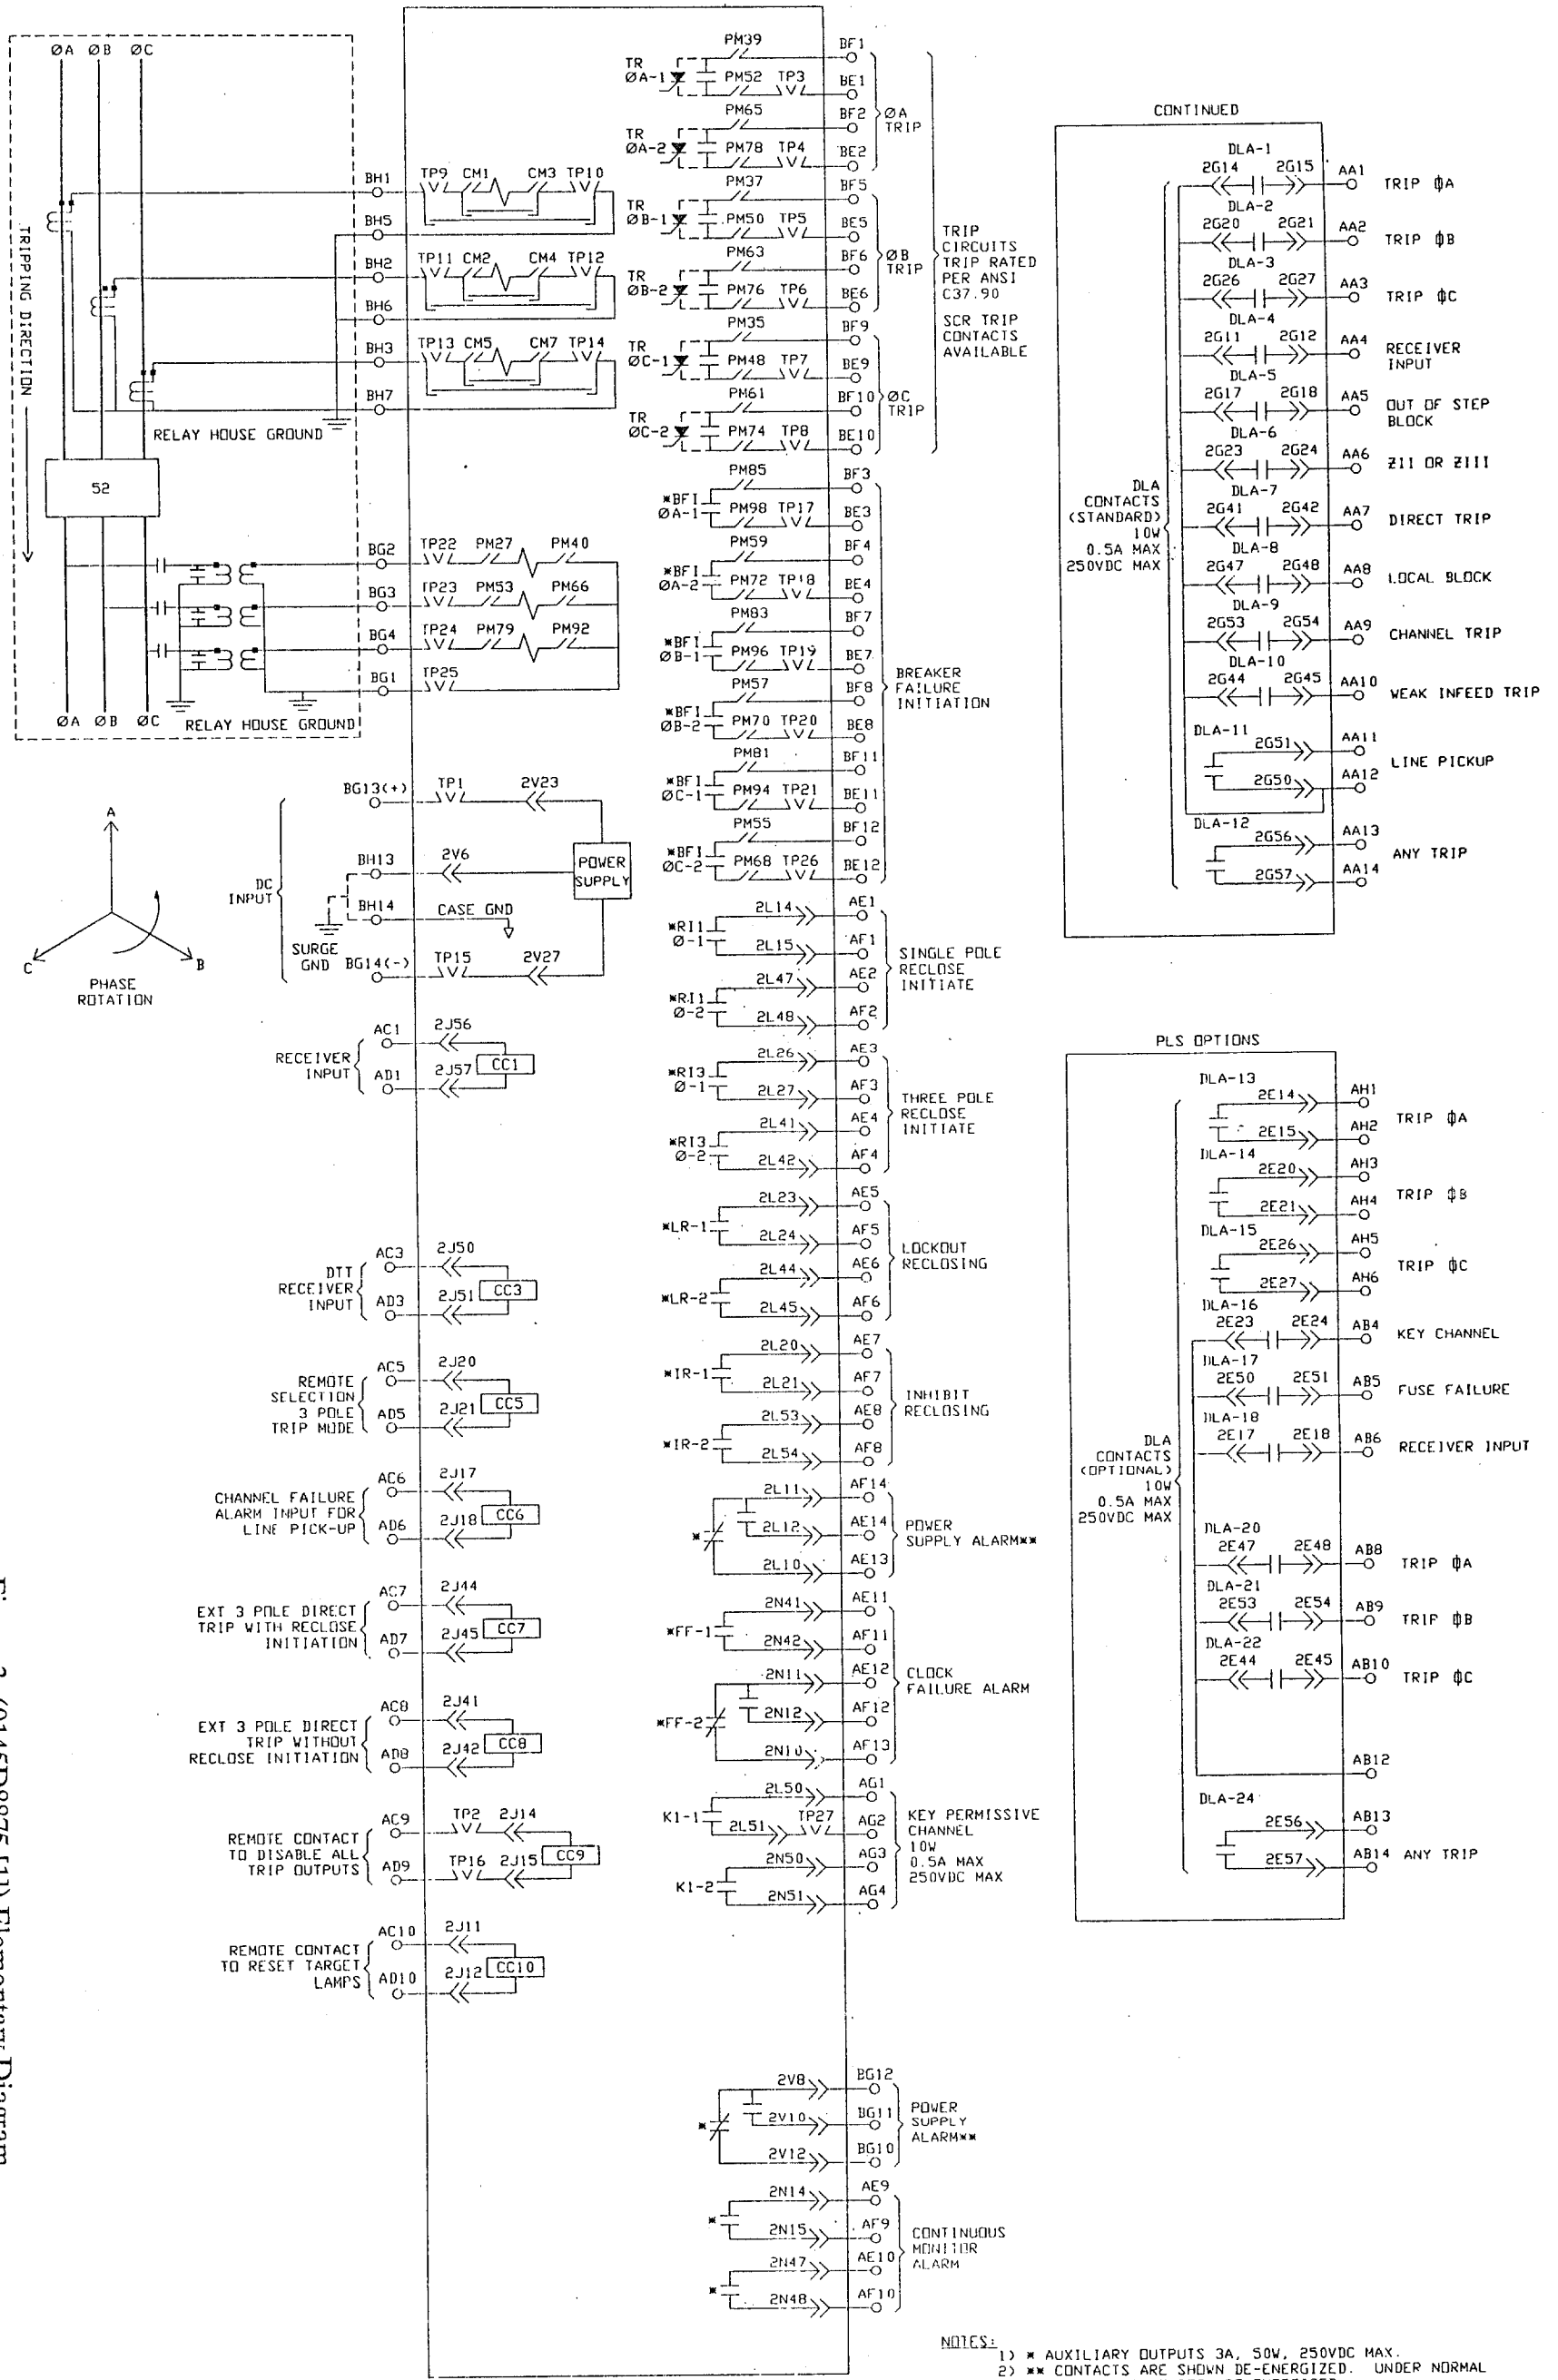

Figure 3 (0145D8875 [1]) Elementary Diagram
- Figure 3 (0145D8875) Elementary Diagram